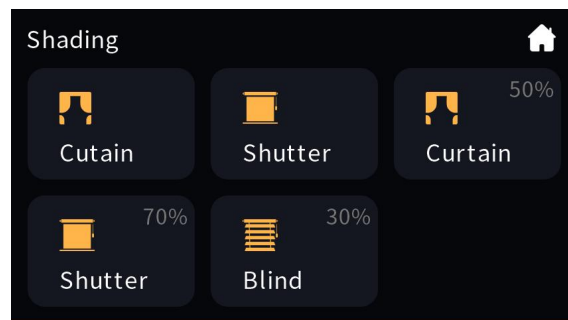

Fig.2.2.2
①~⑥: Display style of Home page is Status. The serial number marked in Fig.2.2.2 is consistent with the sequence number of the function icon in the ETS.
①② display temperature/humidity information, display two icon status. And you can select internal or external sensor via the ETS configuration to display;
③④ is two scene control icons of Home page.